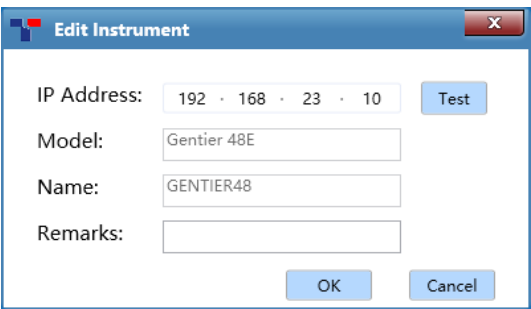

Figure D-3.2b Instrument Management interface - Edit Instrument window
b. Click **< Edit >** and the Edit Instrument window will be automatically popped up; user can change the remarks of instrument in the **Remarks** input box, as shown in figure D-3.2b.